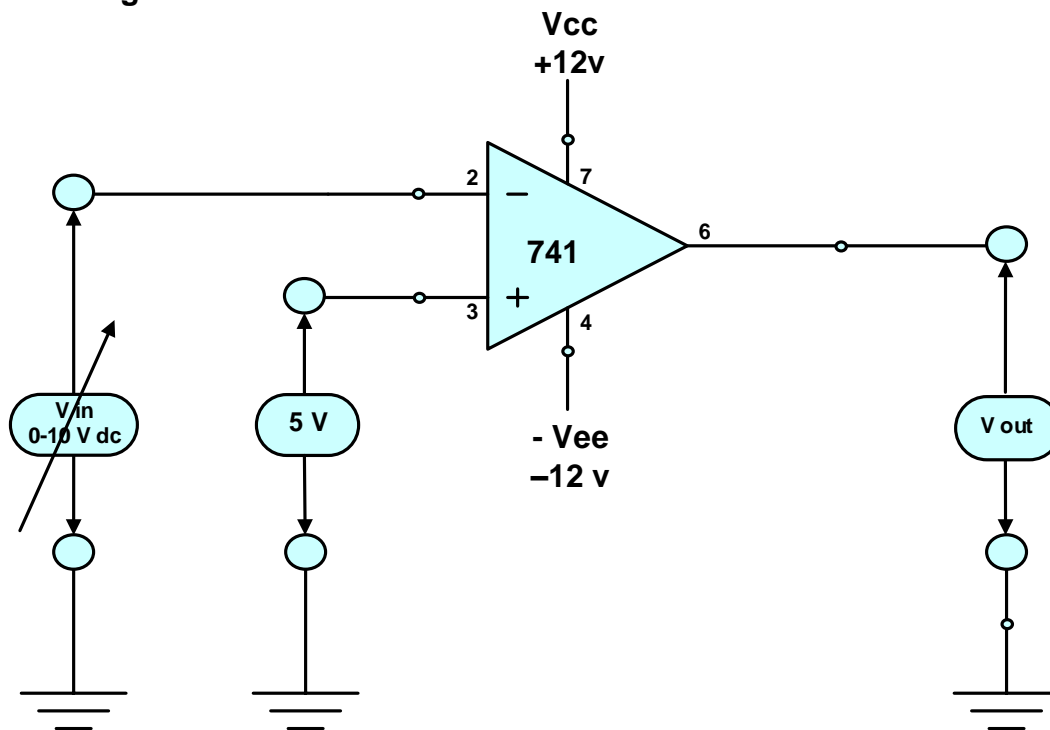

Figure 2.1
1. Connect the circuit as shown in figure 2.1